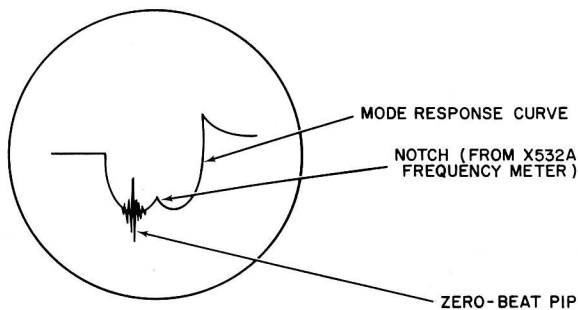

Figure 4-2. Oscilloscope Trace Showing the Klystron Mode Response Curve and Test Frequency Pip
9) Adjust the 715A REFLECTOR VOLTS, MOD. VOLT, and 60 $\sim$  PHASE controls to produce the best oscilloscope trace. The trace on the oscilloscope should appear as in Figure 4-2.